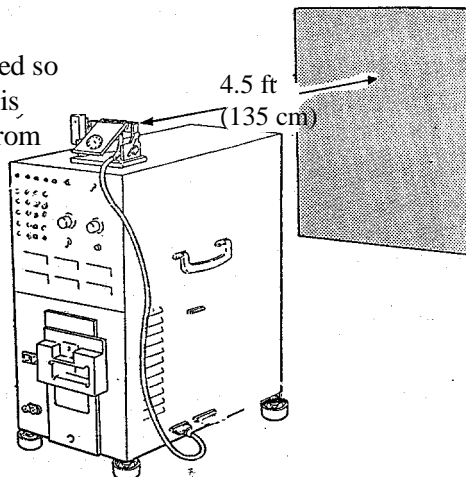

Fig. 7 Setup for 636 Graywall Test
2. Install the camera on the horn with the taking lens 4.5 ft. (137 cm) from a graywall target. (See Figure 7).